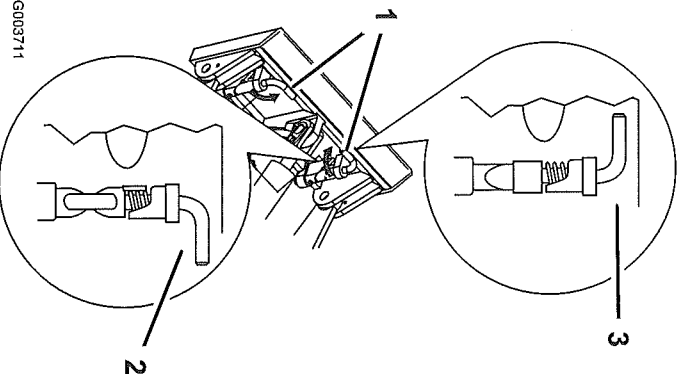

Figure 26
7. Engage the quick attach pins, ensuring that they are fully seated in the mount plate (Figure 26).